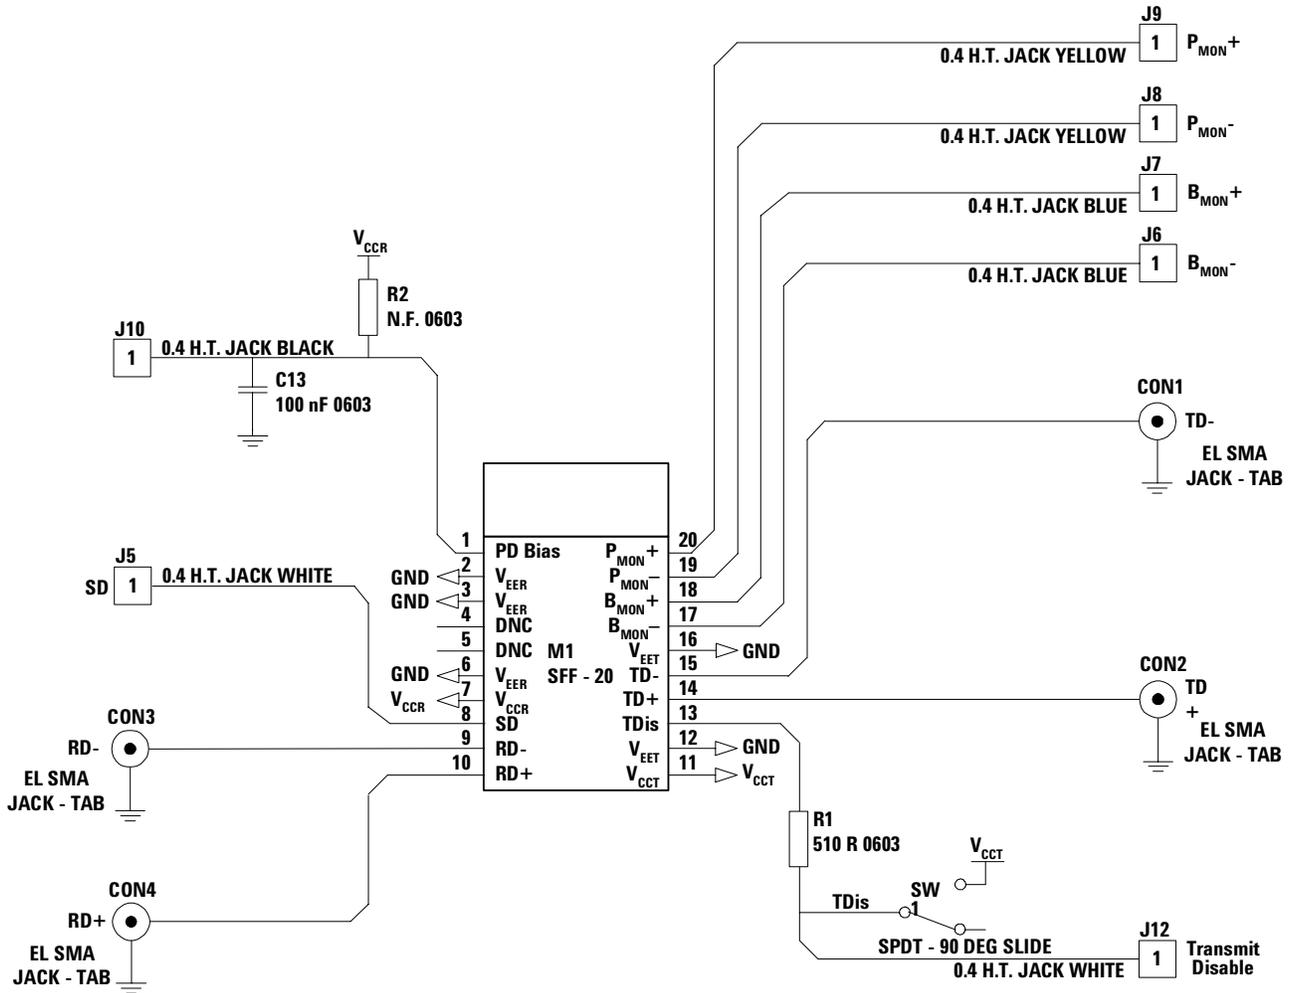

Figure 16. SFF Test Fixture Circuit Diagram for 2.5 Gb/s Transceivers
Figure 16 shows the circuit schematic for the test fixture. Separate power supplies are provided to the transmitter and receiver sections and recommended filtering arrangements are used. The Signal Detect (SD) function is provided for the user. This is single ended +3.3 V TTL output.